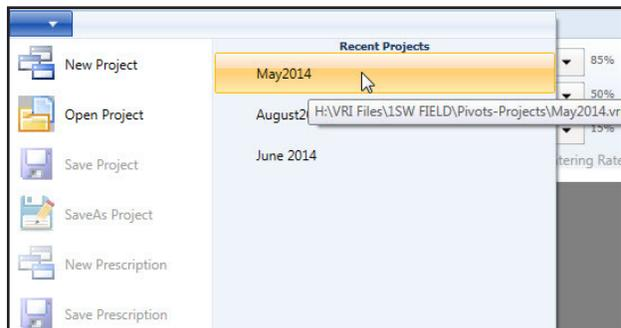

Figure 26-1 Open Recent Project
1. Locate the project in the **Recent Projects** list, and click on its name to open it. (Refer to Figure 26-1.)